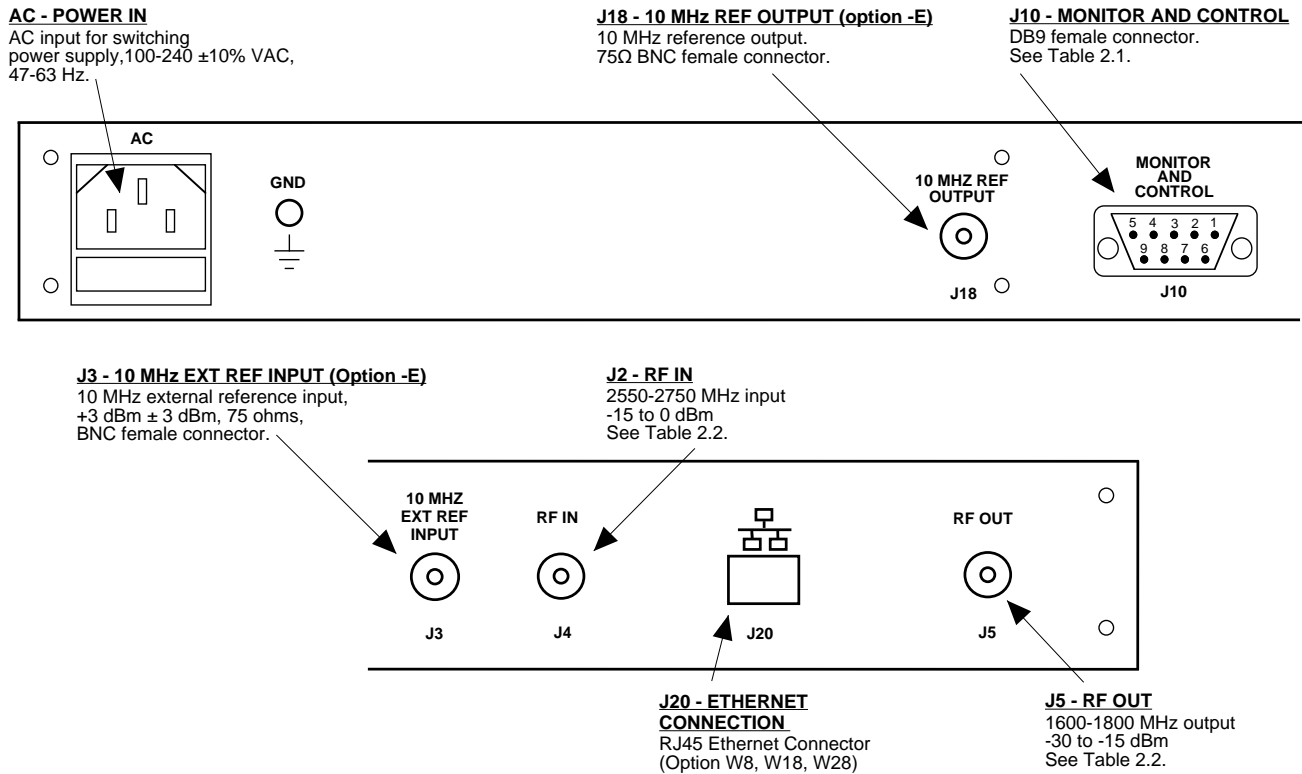

FIGURE 2.2 2083-2717 Rear Panel I/Os
2.2 Rear Panel Input/Output Signals - Figure 2.2 shows the input and output connectors on the rear panel.
1. Connect a -15 dBm to 0 dBm signal to RF IN, J4 (Figure 2.2)